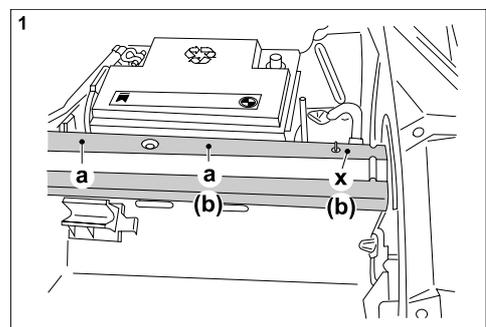

Fig. 1 : Holes in luggage compartment, right
- 4.) In the luggage compartment, drill three 14 mm \varnothing holes (at " a " and " x ") in the upper section of the frame side member on the right and left at the centre punch marks. Working through the centre and the rear hole (near rear panel), also drill through lower sections of frame side member at " b " with 14 mm \varnothing from above (centre punch marks provided); see Figs. 1, 2 and 8.